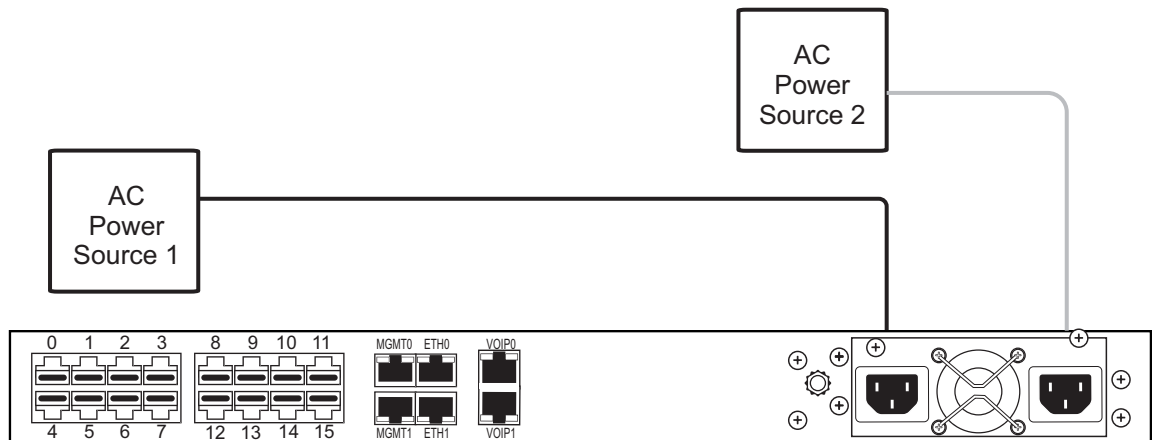

Figure 2.6 AC Power Connection
1. Connect an AC power cable to each AC connector of the 800 series gateway and an AC supply. See figure 2.6 on page 18.